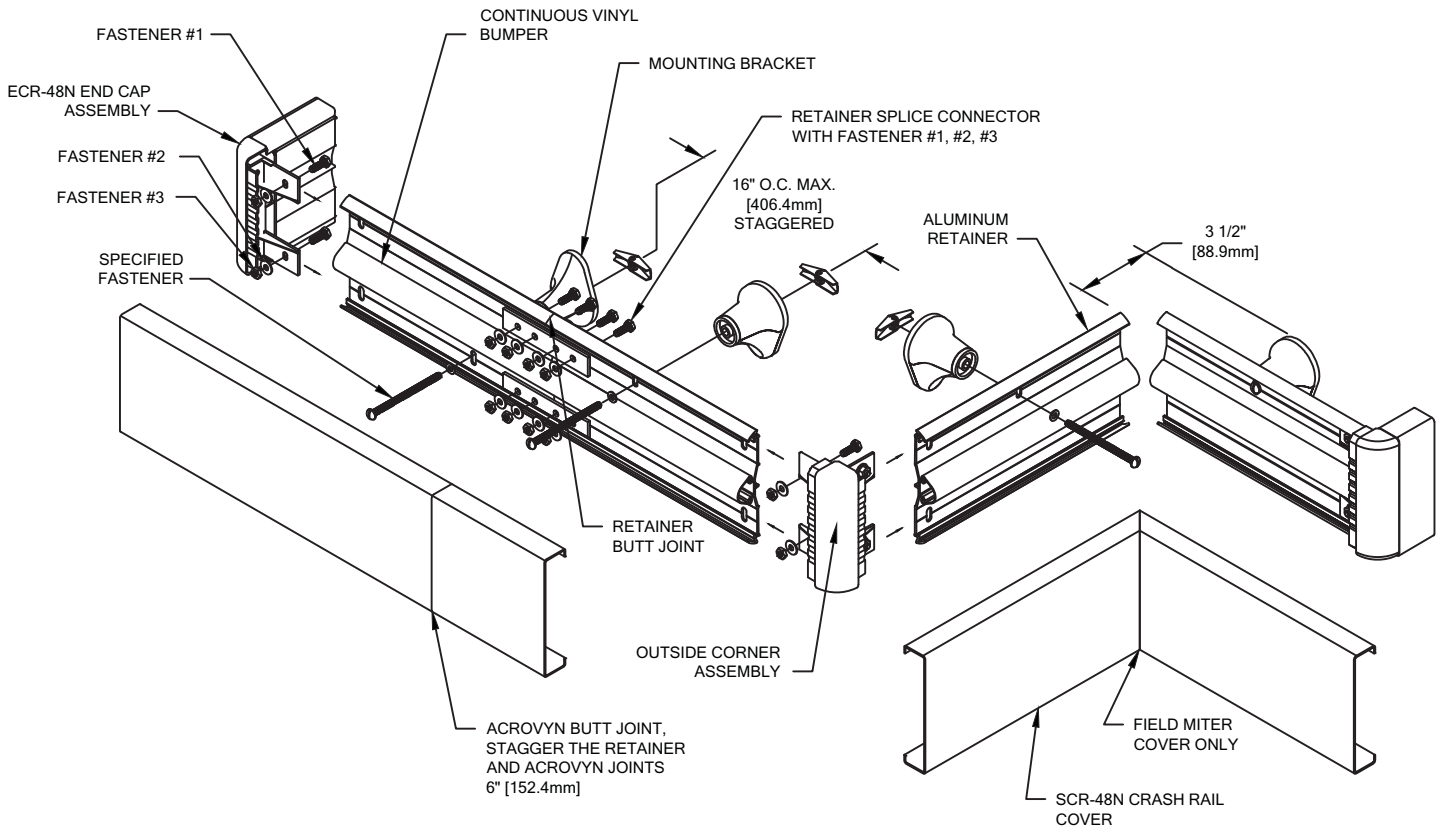

FIGURE 1.
2. CUT THE CONTINUOUS ALUMINUM RETAINER AND THE CONTINUOUS VINYL BUMPER TO LENGTH, USING THE REQUIRED DEDUCTIONS AS NOTED (SEE LAYOUT VIEW). PRE-DRILL CLEARANCE HOLES IN THE ALUMINUM RETAINER 16" [406.4mm] O.C., STAGGERED AS REQUIRED (SEE FIGURE 1). REFERENCE CHART ON PAGE 2 FOR DRILL DIAMETERS.
6. ATTACH END CAPS/OUTSIDE CORNERS BY SLIDING THE END CAP/OUTSIDE CORNER ONTO THE END OF THE ALUMINUM RETAINER AND SECURING INTO POSITION USING TWO 1/4-20 x 1/2" HEX HEAD MACHINE SCREWS WITH LOCK WASHER AND NUT AT EACH END CAP AND FOUR AT EACH OUTSIDE CORNER. (SEE FIGURE 1 ABOVE)